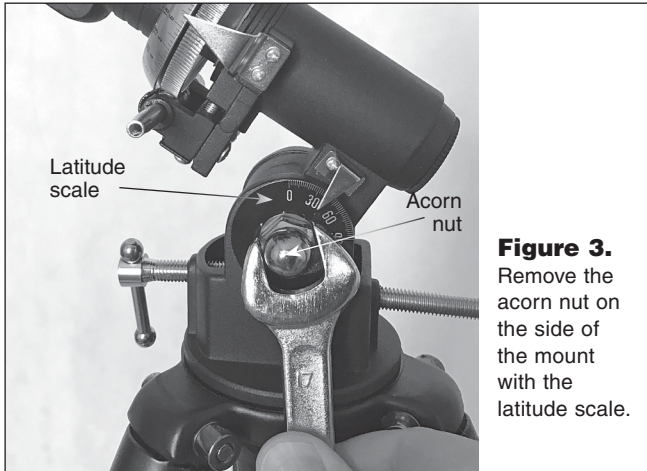

Figure 3. Remove the acorn nut on the side of the mount with the latitude scale.
2. Remove the acorn nut adjacent to the latitude scale from the equatorial mount (**Figure 3**). Leave the latitude scale and clear washer in place.